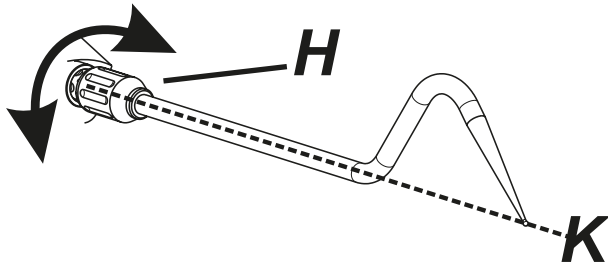

Figure 2: Rotational Curved Pointer Tip
- 5.1 In order to rotate the Rotational Curved Pointer's tip, use the checkered handle (**H**) at the beginning of the tip (see figure 2).
- 5.3 The curve of the pointer enables the user to reach areas difficult to access. Please note, that the pointer's axis used by the software corresponds with the virtual straight (**K**) from the beginning of the tip to its very end (see figure 2).